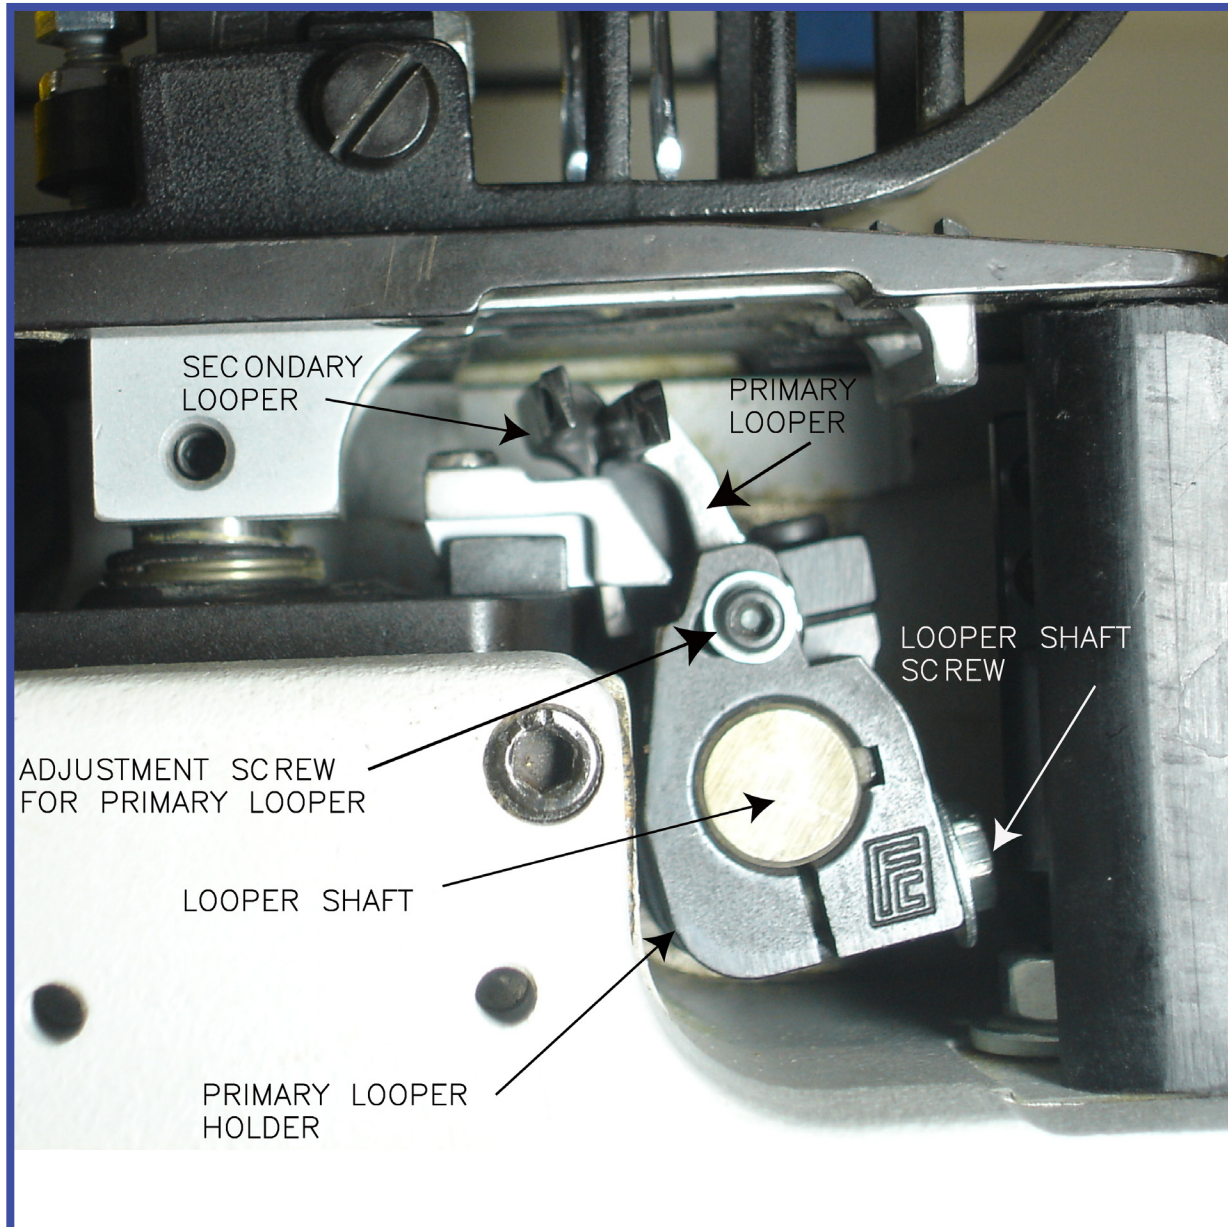

Figure 5.13 Looper Shaft Screw
3. If adjustment is necessary, loosen, but do not remove Looper Shaft screw and slide Looper assembly along Looper Shaft to desired position. Refer to Figure 5-13.
6. The spacing between the scarf of the needle to the nose of the primary looper is set with the screw to lock the position of the primary looper as shown in Figure 5-13. The nose of the primary looper must come as close as possible to the scarf present in the side of the needle without interference.